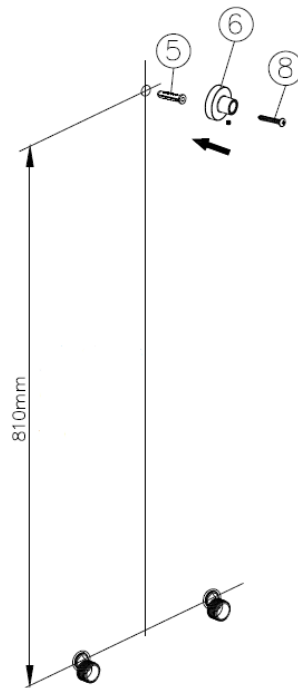

Figure 3
3. Mark and drill a hole for mounting the shower rack according to the diagram (Figure 3). The hole is located in the middle between the eccentrics at a height of 810 mm.